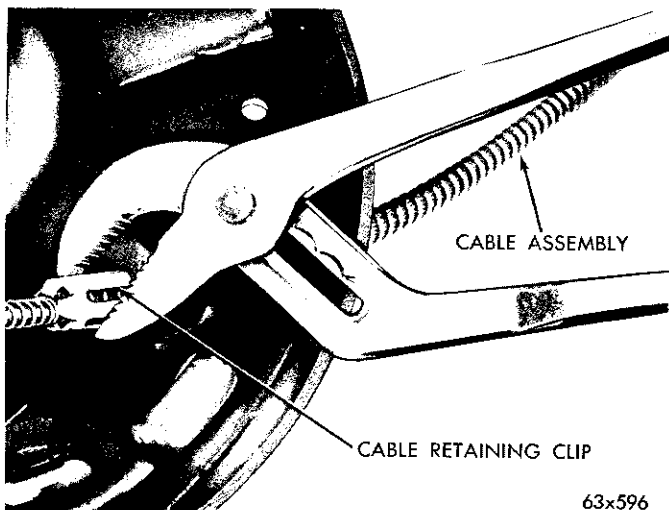

Fig. 11—Removing Brake Cable from Support
(1) With the wheel, brake drum and shoes removed, remove the support attaching nuts and washers.
(2) Remove the rear axle shaft and retainer.
(3) Disconnect the hydraulic brake line from the wheel cylinder.
(4) Disengage the brake cable from the parking brake lever.
(5) Using a suitable tool compress the three flared legs of the cable retainer and pull the brake cable out of the support (Fig. 11).
(6) Remove the brake support from the rear axle housing.
- (6) Remove the brake shoe retaining springs.
- (7) Remove the brake shoe strut and spring from the brake support and disconnect the brake cable from the operating arm.
- (8) Compress the retainers on the end of the brake cable housing and remove the cable from the brake plate (Fig. 11).